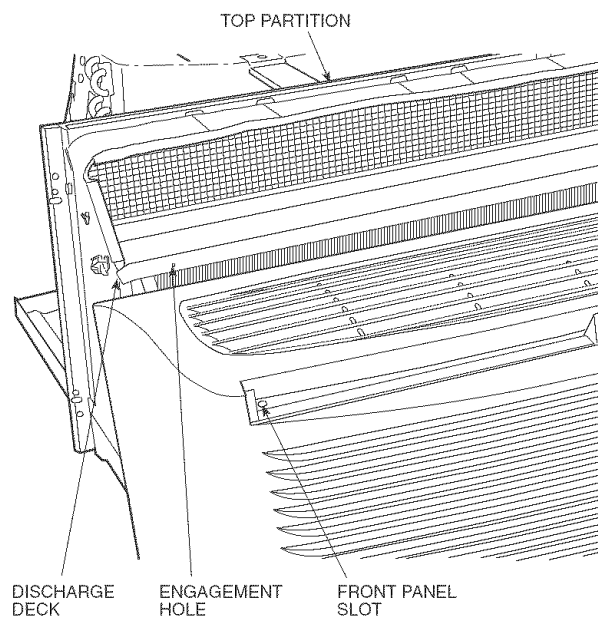

Fig. 4 — Front Panel Installation with Locking Feature
1. Remove both indoor air inlet filters to expose front panel engagement holes. See Fig. 4.